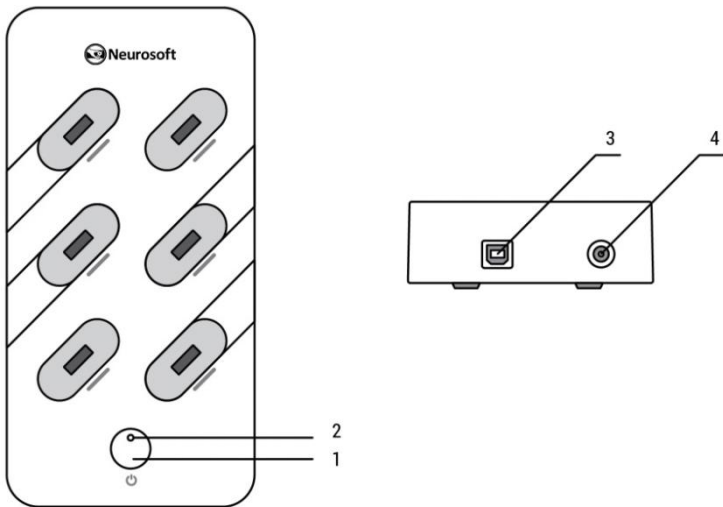

Fig. 6. The front and side panels of the sensor charging station
The front and side panels of the sensor charging station are shown in Fig. 6.
2. Power the charging station on by pressing power button located on the station (Fig. 6).